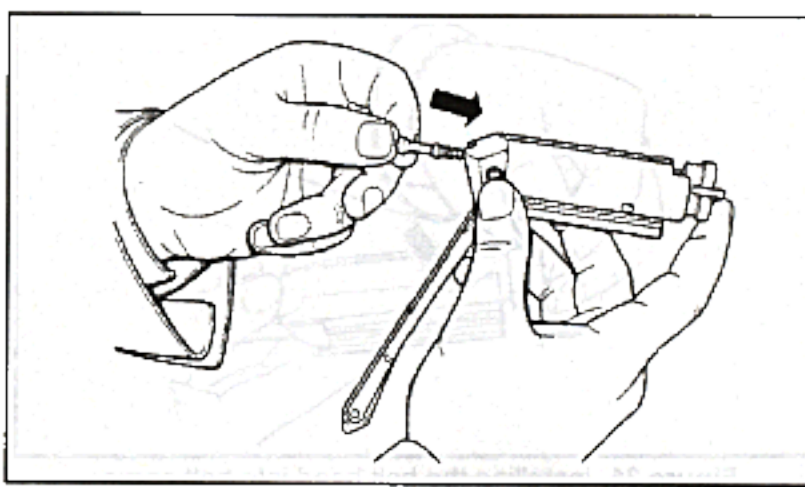

Figure 33. Installing the firing pin with firing pin spring into the bolt group
- D. **Install firing pin with spring** – Insert the firing pin with spring into the hole in the back end of the bolt carrier (**Figure 33**).